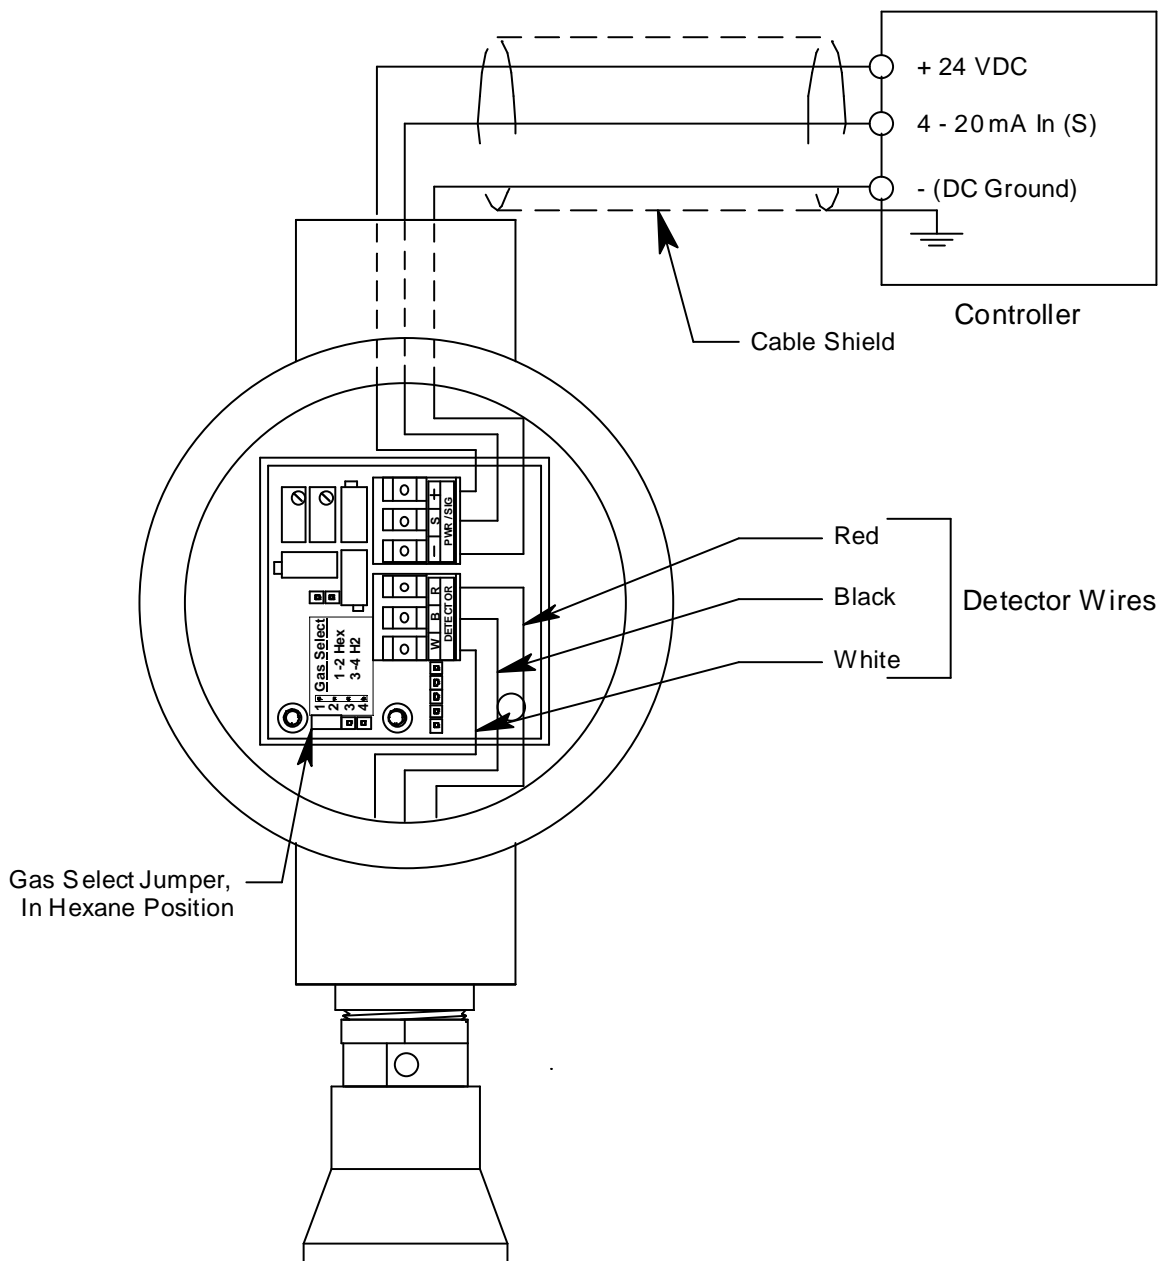

Figure 3: Wiring the PPM Hexane Transmitter to a Controller
4. The detector leads are factory wired. Verify that the detector leads are wired to the amplifier's detector terminal strip as shown in Figure 3.
7. Pull out the controller terminal strip, and connect the three wires to the terminal strip as follows (see Figure 3).
11. Connect the wires to the applicable detector/transmitter terminal strip at the controller as shown in Figure 3.
8. Connect the detector leads to the detector terminal strip as shown in Table 3 below and Figure 3 on page 6 of this manual.